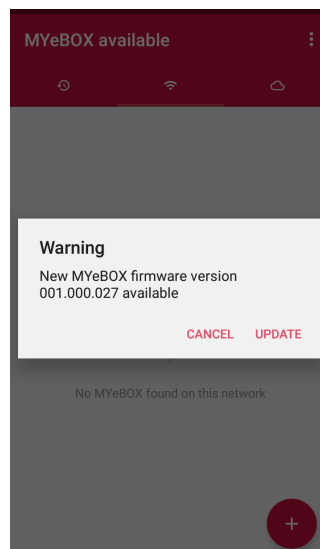

Figure 25: MyEBOX application screen indicating a new version.
- 5.- Once the device is connected to the application, it is necessary to check whether there is a later version of the device's firmware. If there is a new firmware version, the application will display the message in **Figure 25**